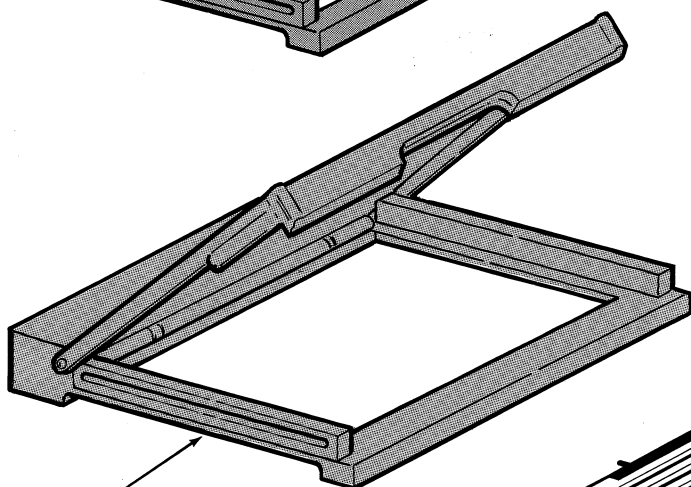

Figure 2. pHaser Components
- pHaser housing (Figure 2)
- pHaser trays for 11 cm and 18 cm gels (Figure 2)